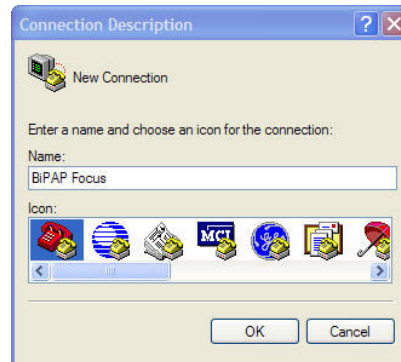

Figure 5-6: Entering a Name for the Connection to the BiPAP Focus Ventilator
4. Enter a name for the connection (*BiPAP Focus Communications* is entered in Figure 5-6) and choose an icon, then click **OK**.